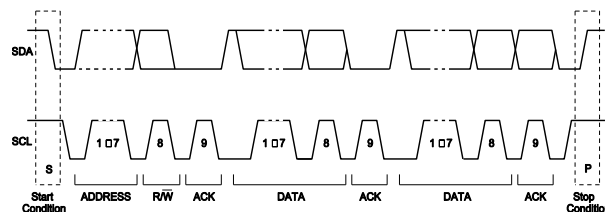

Figure 9: Complete Data Transfer
Figure 9 shows the format that data transfers follow. A start command (S) sends a slave address. This address is 7 bits long, followed by an 8th data direction bit (R/W). A 0 indicates a transmission (write), and a 1 indicates a request for data (read). A data transfer is always terminated by a stop command (P), generated by the master. However, if a master still wishes to communicate on the bus, it can generate a repeated start condition (Sr) and address another slave without first generating a stop condition.